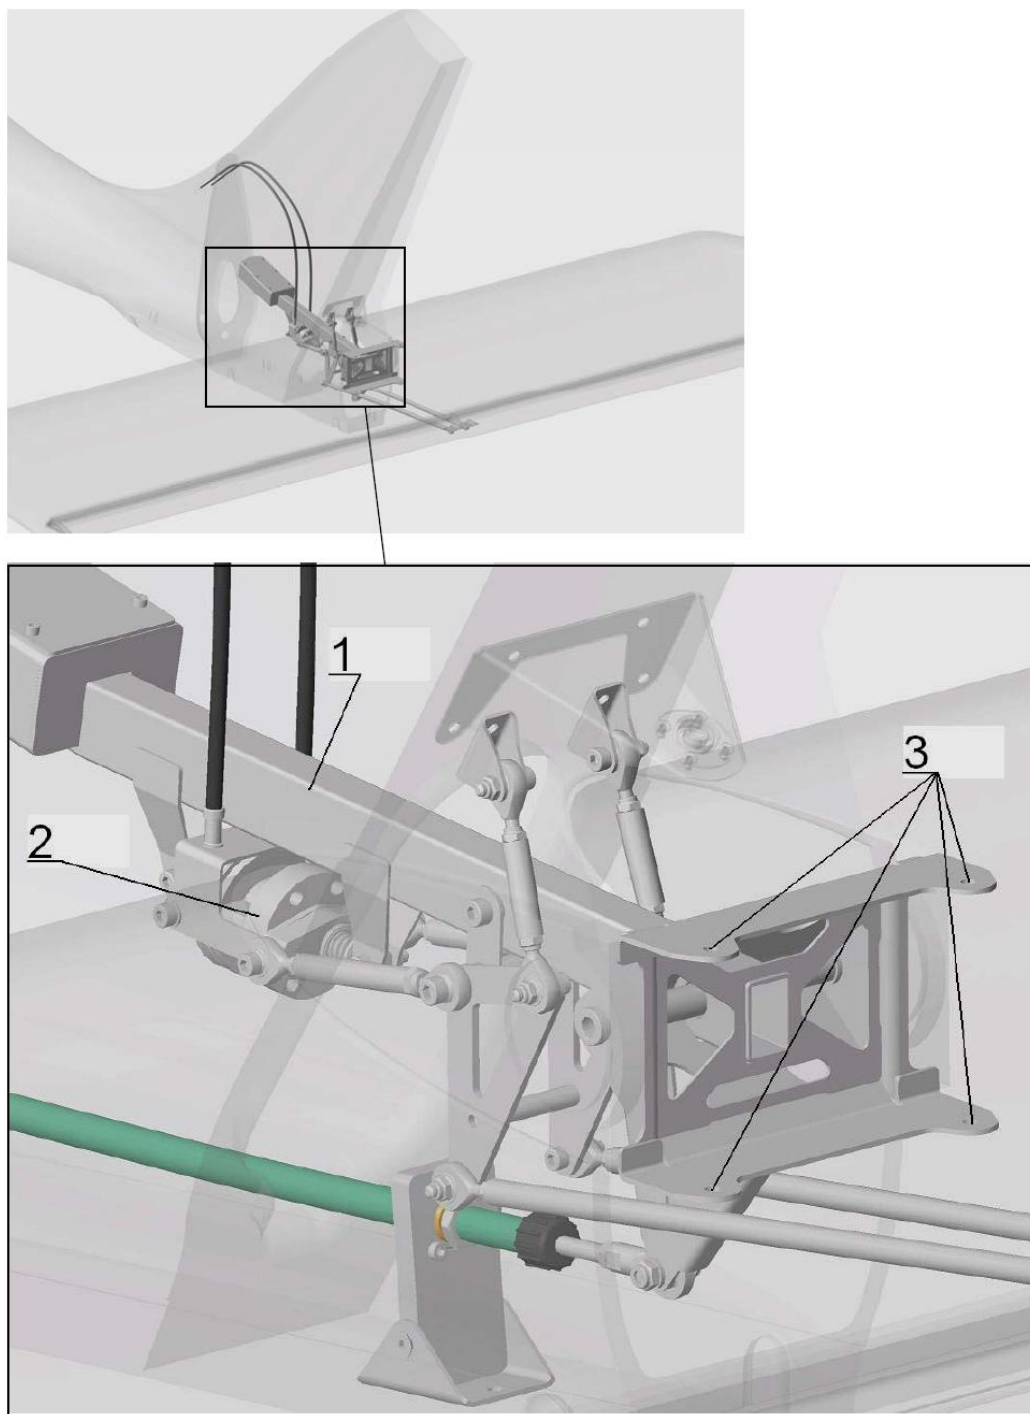

Fig. 1
The stabilator is attached to the fuselage by means of the bracket (3 – Fig.1) that rotates on axle KA3010001 (Stabilizer axis of rotation) installed into bearings C9997025 (Bearing SKF 608-2RZ) in the fuselage (Fig. 1).
1. Install the stabilator bracket with balancer KA3010120 (pos.1) onto the stabilator KA3010200 (Fig. 1). Make sure the trim tab is installed on the stabilator, the control rods KA6060010 (Rod) are connected to the trim tab, the stabilator bracket is equipped with trim tab bell crank KA6060100 and sheave (pos.2).
2. Match holes (pos.3) in the bracket with holes in the upper and the lower skins of the stabilator.
5. Install the stabilator KA3010200 (Fig. 1) into the bracket KA3010120 by matching holes (pos.3) in the bracket with holes in the top and bottom skins of the stabilator.